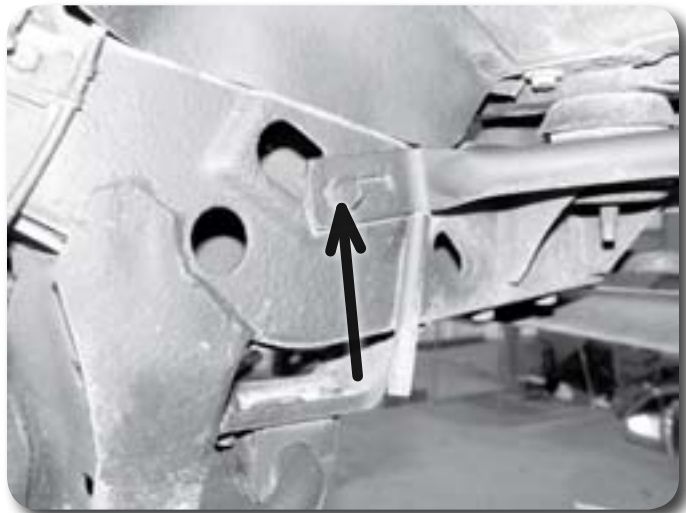

Figure 4
6. Remove the bolt mounting each of the outside bumper brackets to the frame and remove the brackets from the vehicle **Figure 4**. Save bolts.